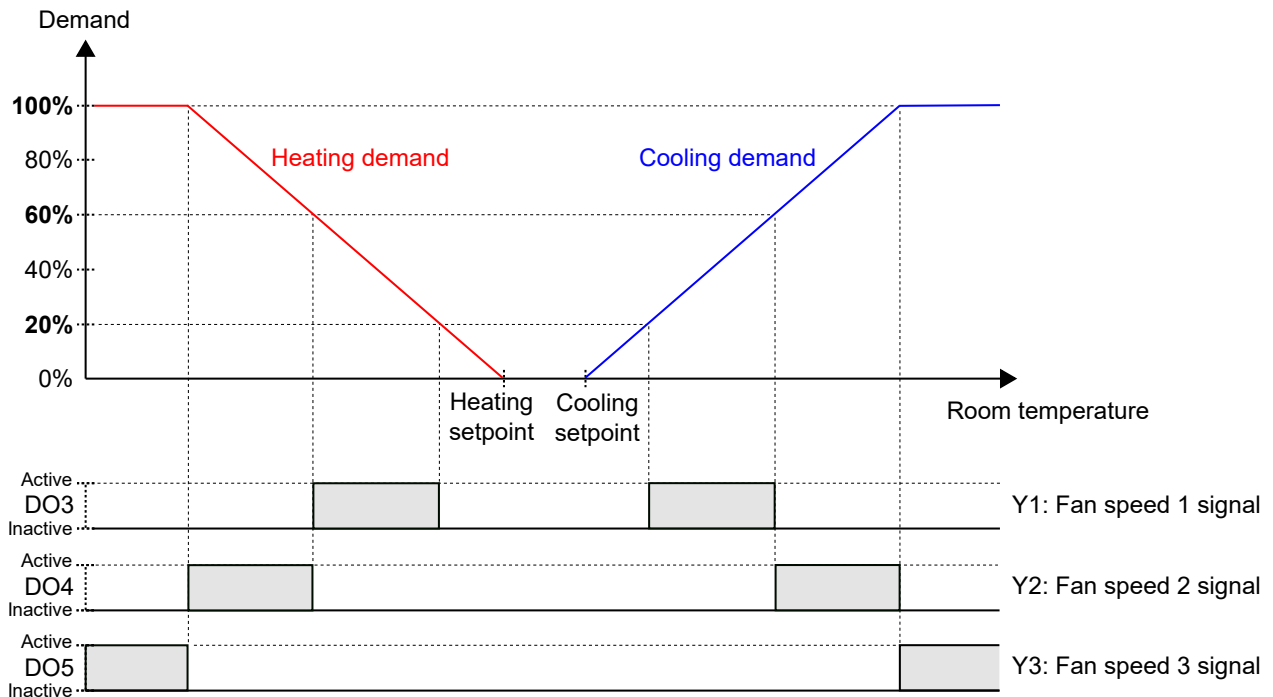

Figure 2-30 3-speed fan control behaviour in auto mode.
In auto mode, the Y1, Y2, or Y3 signal is active when the current heating or cooling demand is higher than the corresponding *Demand for fan speed [nr] (%)* configuration setting, as illustrated in *Figure 2-30*.
*Figure 2-30* illustrates the 3-speed fan control behaviour in auto mode when no hysteresis for fan speed decrease is applied, the fan speed 1, 2, and 3 signals are configured on digital outputs 3, 4, and 5, and the *Demand for fan speed [nr] (%)* settings are set to 20, 60, and 100, respectively.